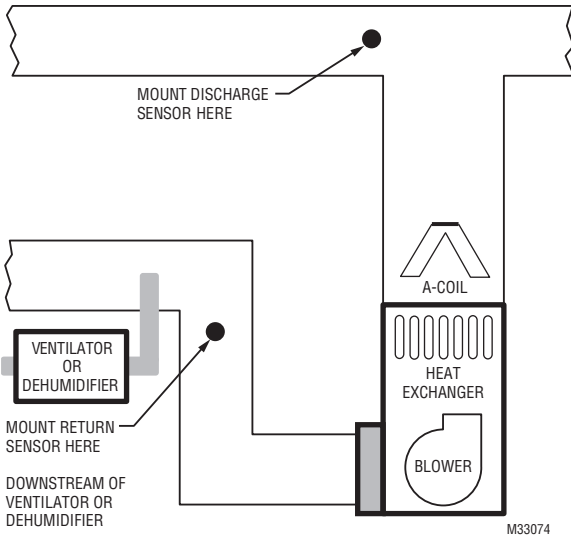

Fig. 10.
Refer to the guidelines below and Fig. 10–14 for mounting locations of the Discharge and Return Air Temperature Sensors.
1. Mount the Discharge Air Temperature Sensor on the supply duct in a location where the air is mixed well. Mount the Discharge Air Temperature Sensor out of sight of the A-Coil/Heat Exchanger when possible. See Fig. 10.
1. Install the Return Air Temperature Sensor on the return duct in a location where the air is mixed well. Mount the Return Air Temperature Sensor downstream of a Bypass Humidifier, Dehumidifier or Ventilator. See Fig. 10–14.